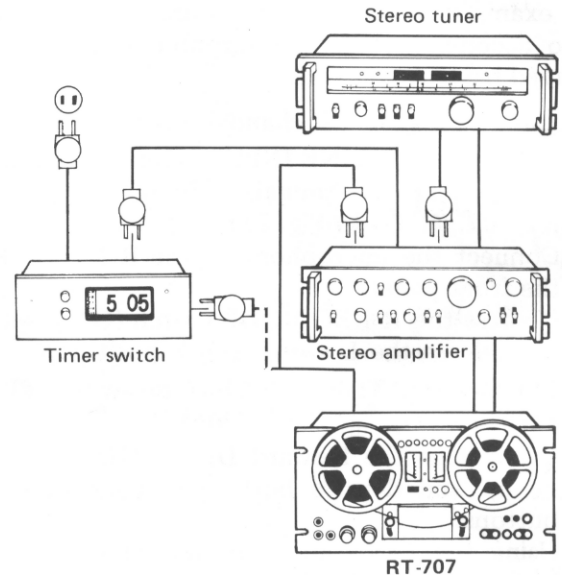

Fig. 23
1. As shown in Fig. 23, connect the RT-707's power cable to the Time switch. Also, plug the power cables of the stereo amplifier and tuner into the timer so that their ON-OFF functions are controlled by the timer.